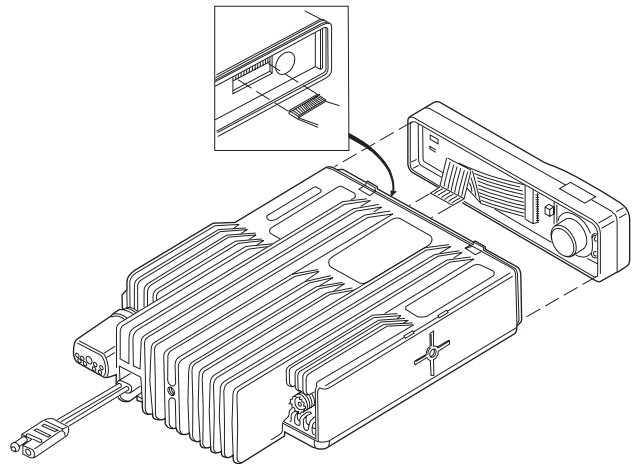
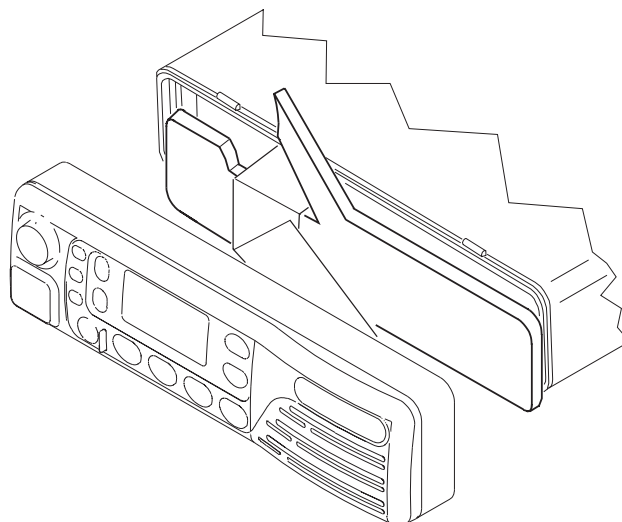

Figure 6-2. Flat Cable Removal
Figure 6-7.
5. Remove the speaker pad and flat cable from the connector on the radio side. Refer to Figure 6-2 and Figure 6-7.
3. Assemble the speaker pad by sliding the slit of the pad over the flat cable. Refer to Figure 6-7.